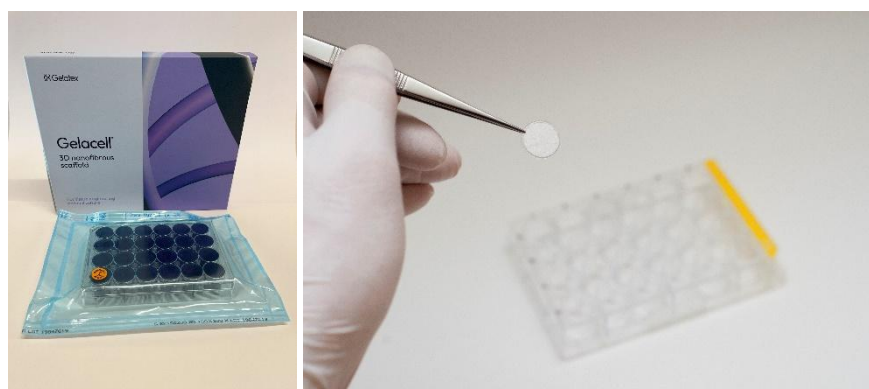
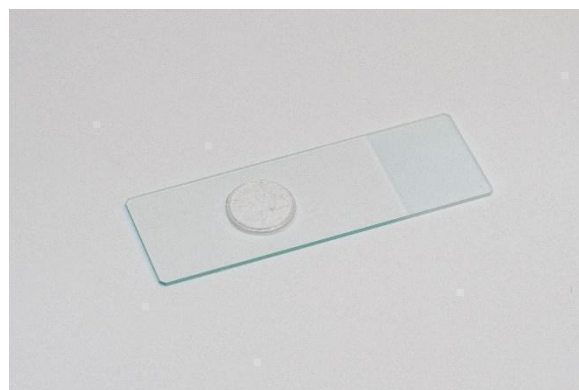

Figure 1: Gelacell™ scaffolds incorporated in the well plate
Figure 3: Fix the Gelacell discs using mounting media for imaging.
Gelacell™ is a unique, 3D microfibrous scaffold specifically engineered for advanced in vitro 3D cell culture and tissue engineering applications. Designed as a non-woven, highly porous scaffold, Gelacell™ offers exceptional biocompatibility and non-toxicity across a variety of cell types. Our specially integrated circular scaffolds in a well plate format (as shown in Figure 1) offer a straightforward visual imaging of cells directly from the well plate.
4. **Handling:** Use fine point tweezers (straight or angled) to hold the discs (see Figure 1), and place the discs on a glass slide containing one or two drops of mounting media to fix the discs (Figure 3).